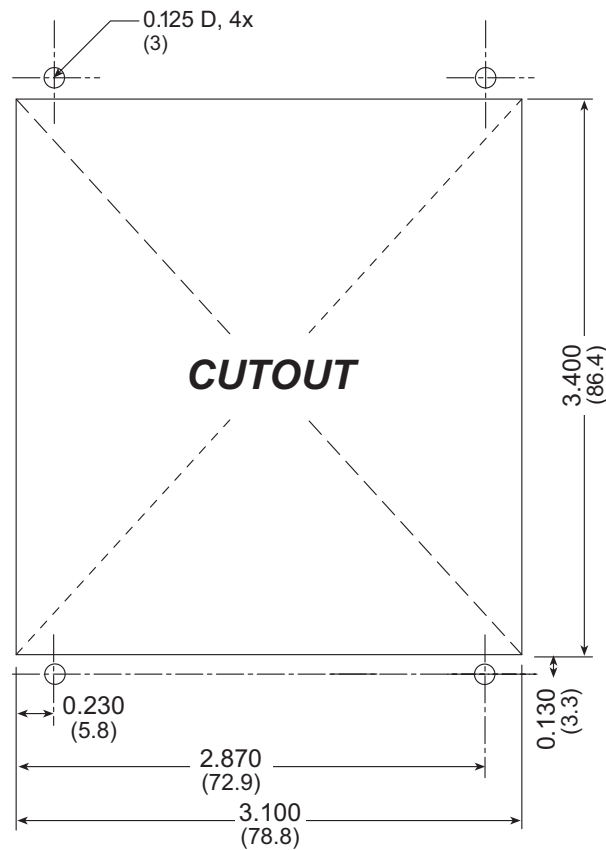

Figure C-8. Recommended Cutout Dimensions
1. Cut mounting holes in the mounting panel in accordance with the recommended dimensions in Figure C-8, then use the bezel faceplate to mount the LCD/keypad module onto the panel.